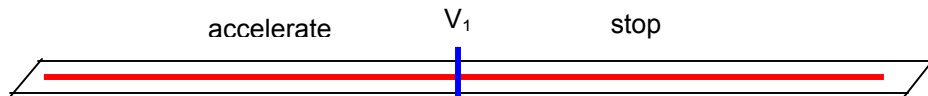

Figure 2 – Accelerate-Stop Distance
**Accelerate Stop distance (ASD)** (Figure 2) – is the distance required to accelerate on all engines to  $V_1$ , and to initiate a rejected takeoff (RTO) or accelerate to  $V_1$ , lose an engine and stop. Newer aircraft (those certificated under Part 25 Amendment 42 and subsequent) must show the RTO with all engines in addition to engine out. Older aircraft just assumed an engine failure. The RTO is accomplished using maximum braking and airbrakes or spoilers. The use of thrust reversers is not allowed for the determination of the accelerate stop distance except for wet runways.